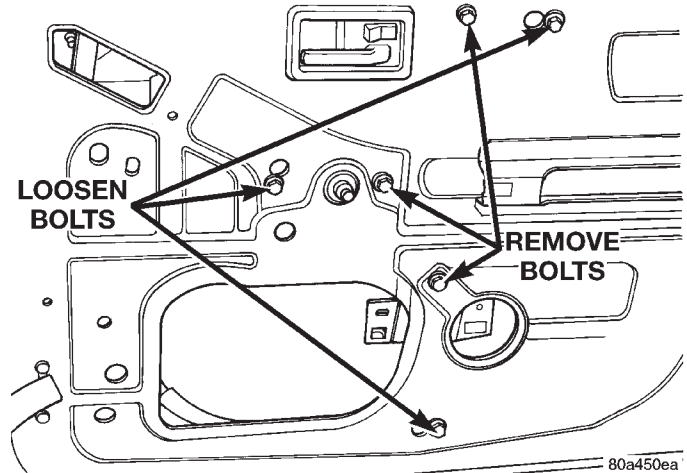
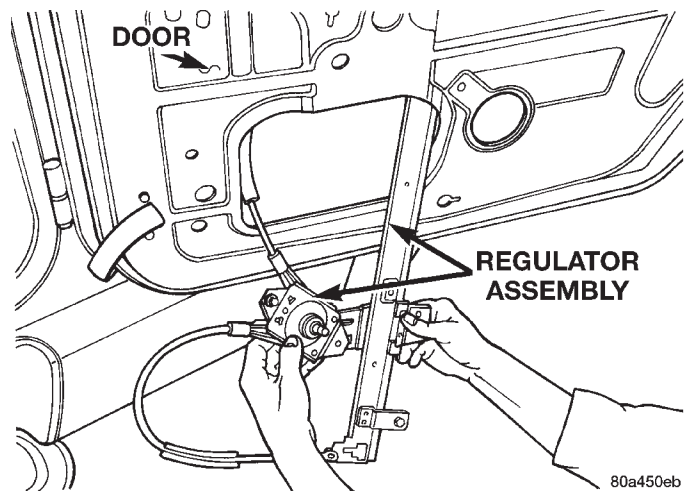

Fig. 32 Window Regulator Bolts
Fig. 33 Regulator Removal
- (1) Remove door trim panel.
- (2) Remove door glass.
- (3) Loosen the bolts in the slotted holes (Fig. 32).
- (4) Remove the bolts attaching the regulator to the door inner panel.
- (5) Lift the regulator upward to free it from the slotted holes in the door inner panel.
- (6) Lower the regulator and remove it through the access hole in the door inner panel (Fig. 33).